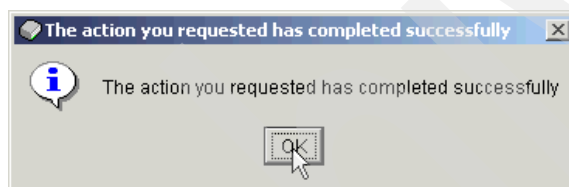

Figure 17-17 Disks added successfully to disk pool
14. When complete, click **OK** in the information window shown in Figure 17-17.